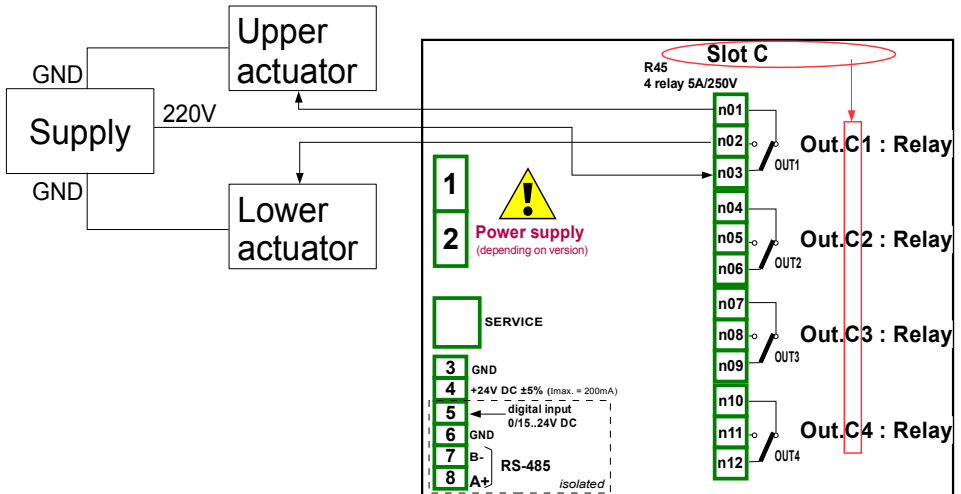

Fig. 7.72. Schematic diagram for the **R45** module
Before connecting a relay to the device, the user should configure the device, and then connect them as it is shown in **Fig. 7.72**. After setting the configuration of the physical inputs we can configure the input channel to read the output value.
- **Source** parameter set as **Out. C1: Relay** (see the connection in **Fig. 7.72**),